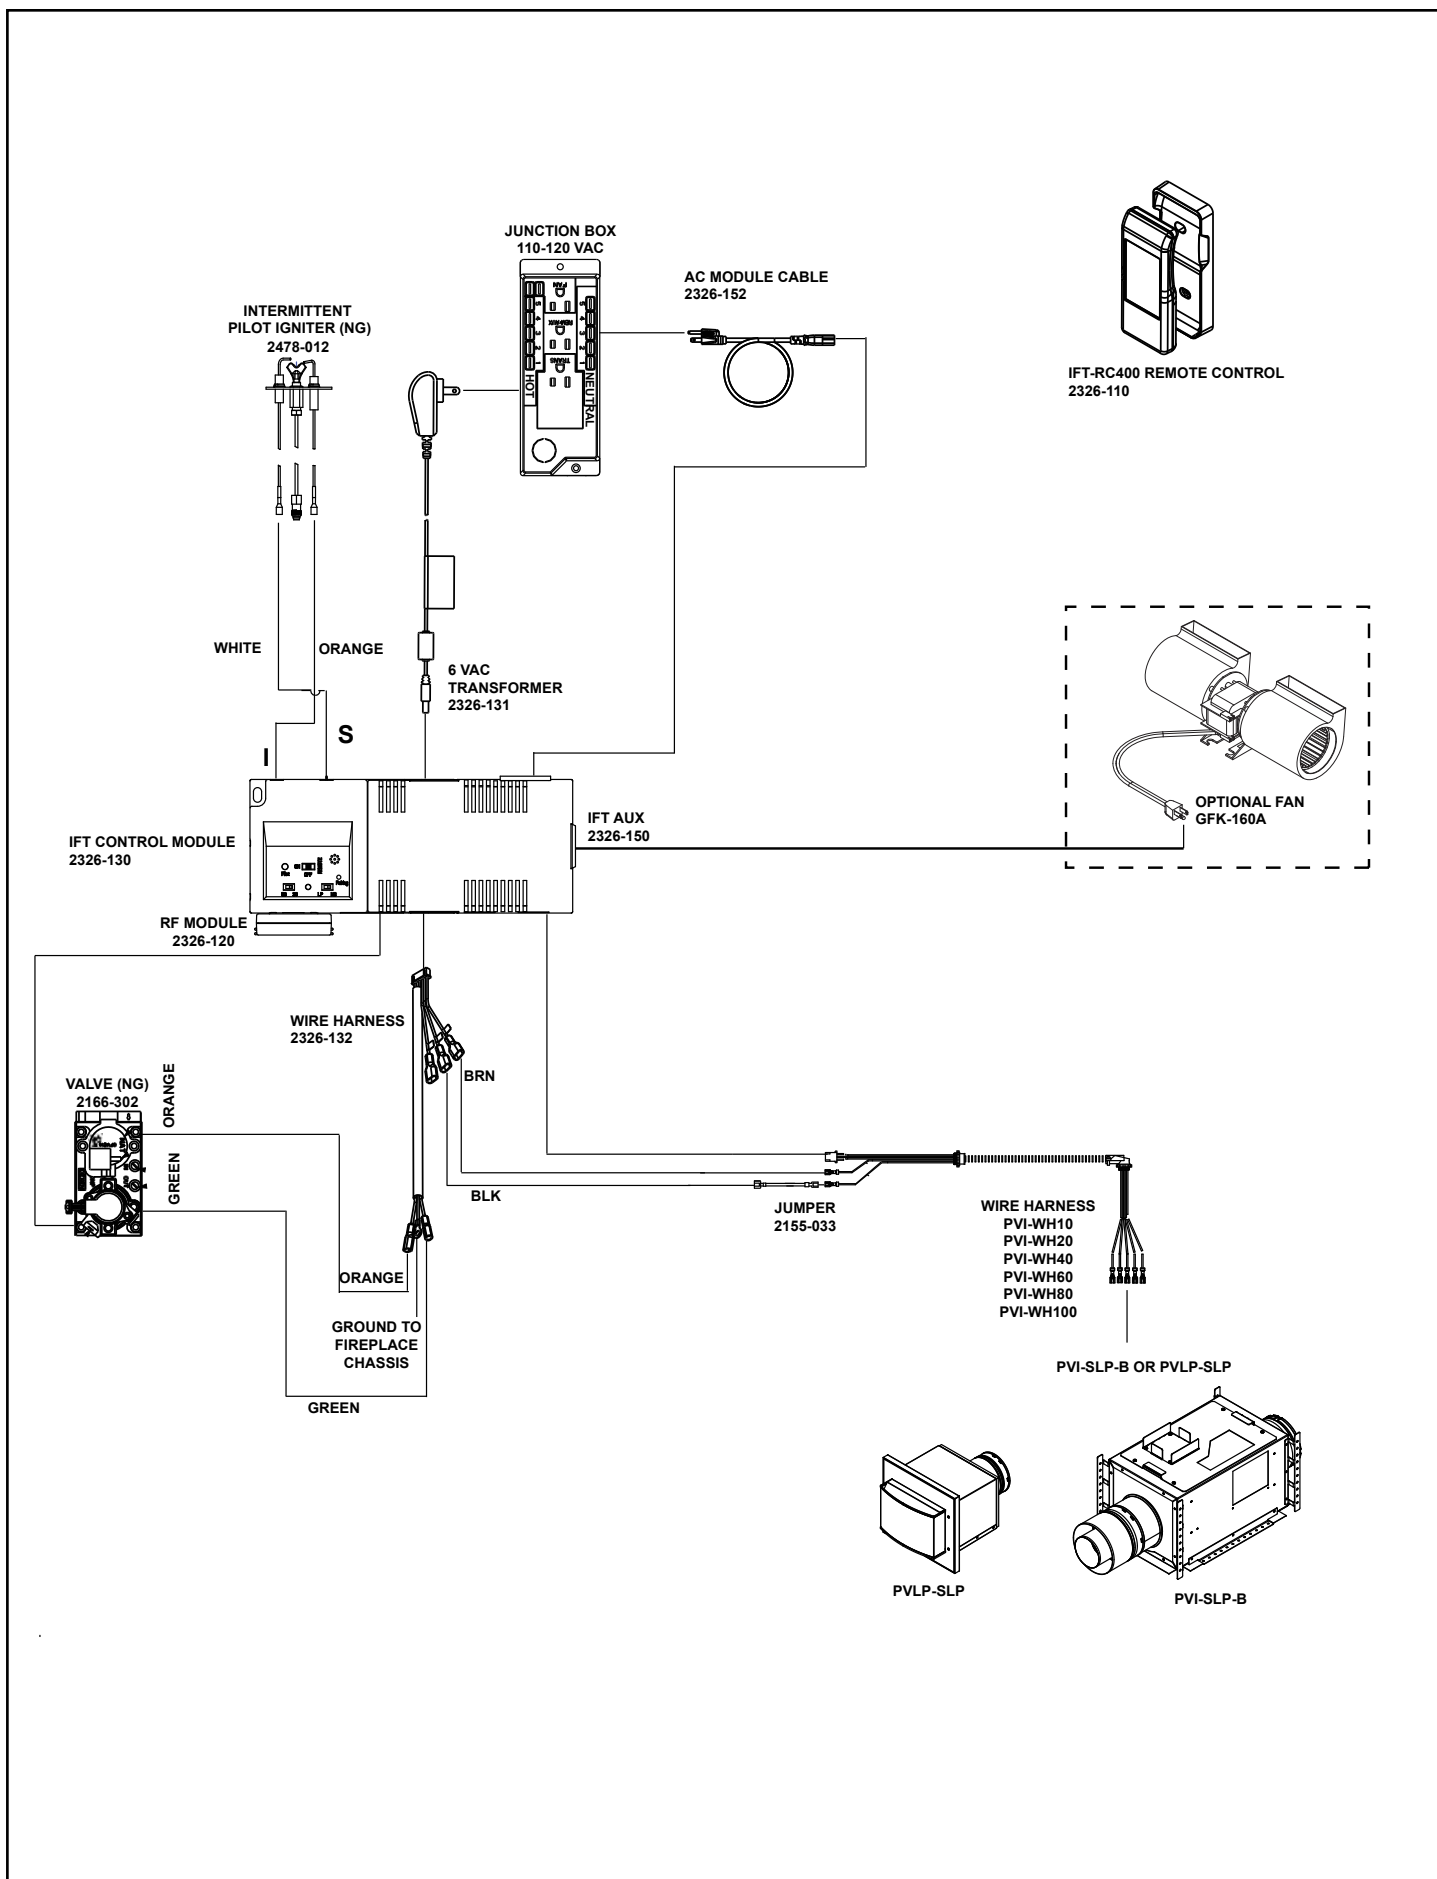

Figure 8.3 IntelliFire™ Touch Wiring With Optional Power Vent
1. Install and wire the fan in appliance as shown in Figure 8.3.